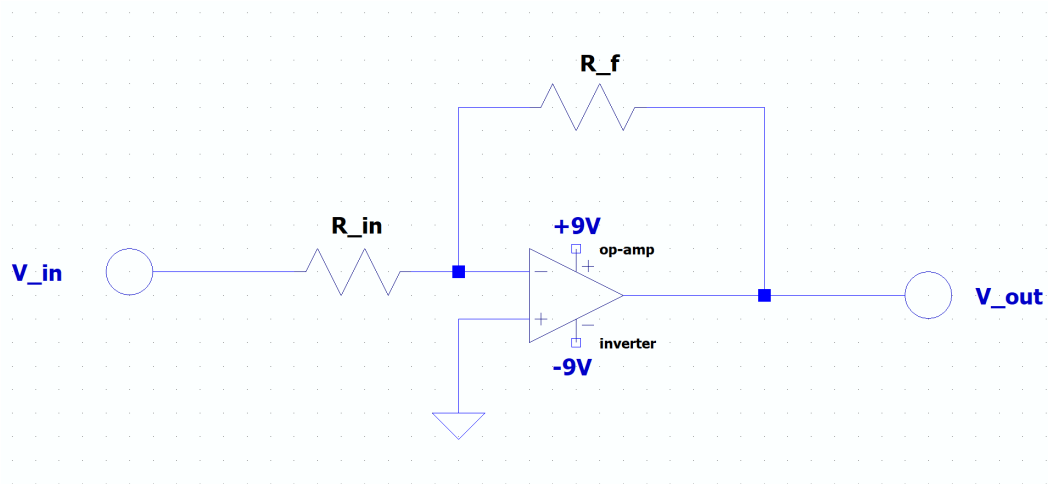
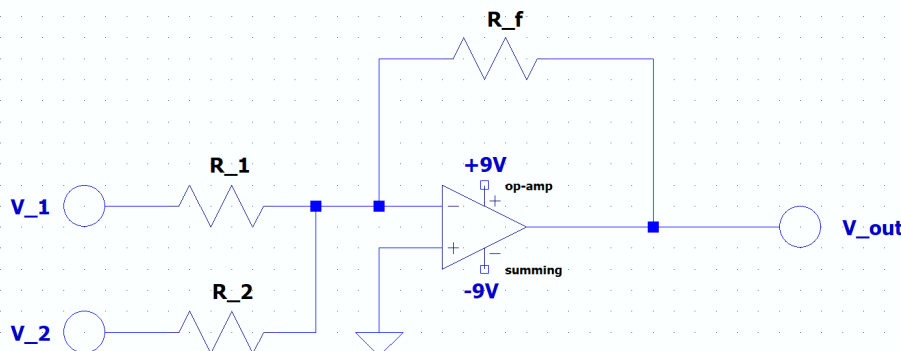

Figure 2: Inverting circuit
Figure 5: Summing circuit
- Using the same breadboard for each component, place the op-amps next to each other straddling the center horizontal line of the breadboard. Following Figures 2, 3, and 4, wire an inverting, integrating, and differentiating circuit.
Figure 2 shows an inverting circuit configured using two resistors on an op-amp. Refer to the notes from the Electronics Lab documentation to understand how this circuit works. The gain of the circuit is from the ratio R_f/R_{in} where R_f is the feedback resistor and R_{in} is the input resistor. Note that the signal is inverted at the output so the final gain is $-R_f/R_{in}$. Using resistors between $1\text{k}\Omega$ - $5\text{k}\Omega$, come up with 4 combinations where two of them result in a reduction in output signal and the other two result in a gain in signal. Make sure the resulting output does not come close to the supply voltage of $\pm 9\text{V}$ (from the rechargeable batteries). As input signals use (i) DC voltage (use a battery and voltage divider to generate this) and (ii) Sinusoidal waveform (choose one frequency between 1kHz - 5kHz). Capture waveforms to show signal inversion (*Note: Both scope channels should be used - one for the input signal, V_{in} , and the second channel for the output signal, V_{out}*)
Change your inverting circuit into a summing circuit following Figure 5 by adding a second resistor (R_2) to the feedback resistor (R_f). Note that in Figure 5, R_{in} (from Figure 2) is now designated as R_1 . Use resistors between 1k Ω - 5k Ω .
- Figure 5 shows addition of two voltages. The circuit can easily be expanded to add more signals by having more resistors in parallel with R_1 and R_2 .